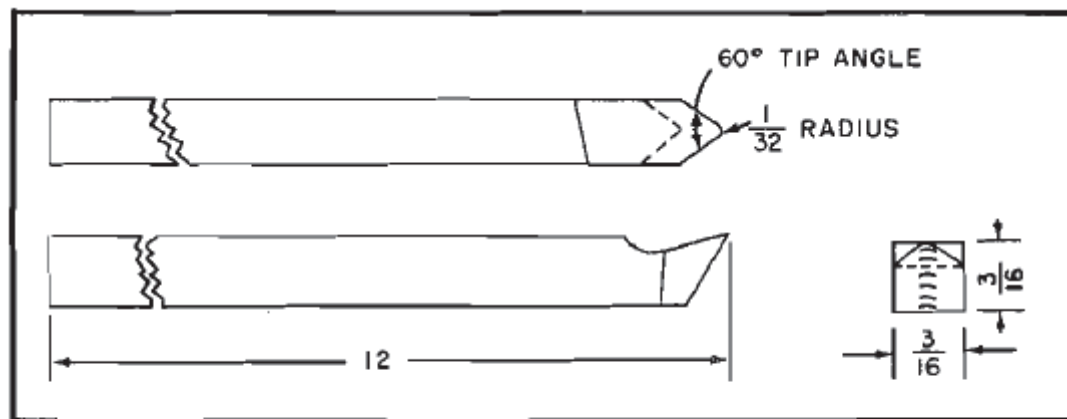

FIG. 6-7. COMMUTATOR SLOT RAKING TOOL.
- a. With the motor shut off, brush out dirt and copper whiskers attached to the trailing edge of the bars with a stiff-bristle brush, preferably one with nylon bristles. A new paint brush or stencil brush with the bristles cut short for added stiffness may also be satisfactory. If stoning and undercutting has produced considerable dragging of copper from the edges of the bars, use a raking tool to remove the copper fins and ragged edges. Such a tool can easily be made by grinding a 60-degree "V" on a screwdriver. Rake the trailing edge of the bar. If the tool is ground with flat sides and used with moderate pressure as a raking tool, it will remove ragged copper fins and break the sharp edges of the bars. See Figure 6-7 for an illustration of the tool. Another method of removing copper fins is to rake the slots with a piece of fiberboard approximately 0.045 inches thick.